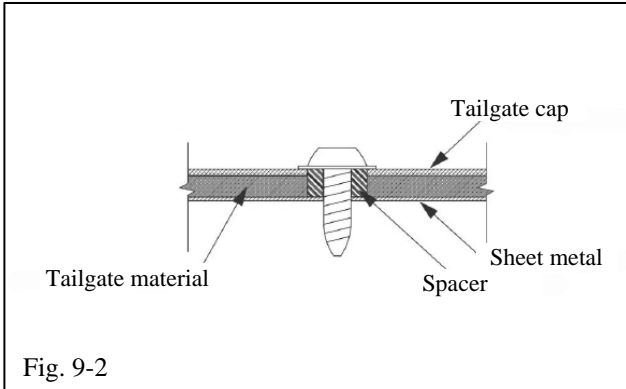

Fig. 9-2
- (b) Slide the top of the BedRug tailgate section underneath the cap and align the holes with the screw holes using spacers as shown (Fig. 9-2).
- (1) Roll the BedRug tailgate back in place.
- (2) After installation is complete, tuck BedRug material between the tailgate and truck bed.
- (3) Reinstall the screws and hand tighten using a T30 Torx driver.